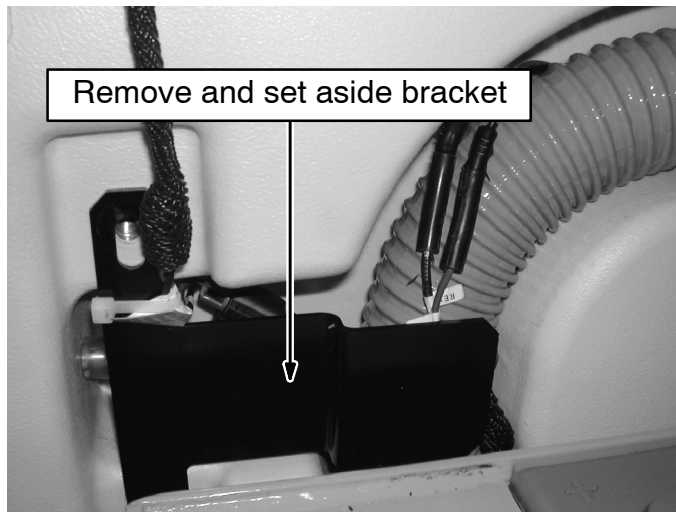

FIG. 3
4. Locate the hose that routes from the Y-fitting to the recovery tank. Remove and set aside the 13 mm bolts from the bracket holding the hose to the inside wall of the recovery tank. Cut the cable ties holding the hose to the other cables. Note the hose route before removing it from underneath the machine. (Refer to FIG. 3)